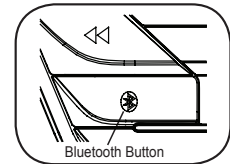

Figure 7
- Press the Bluetooth button in your car (Figure 7) for about 5 seconds until you hear 3 continuous beeps.